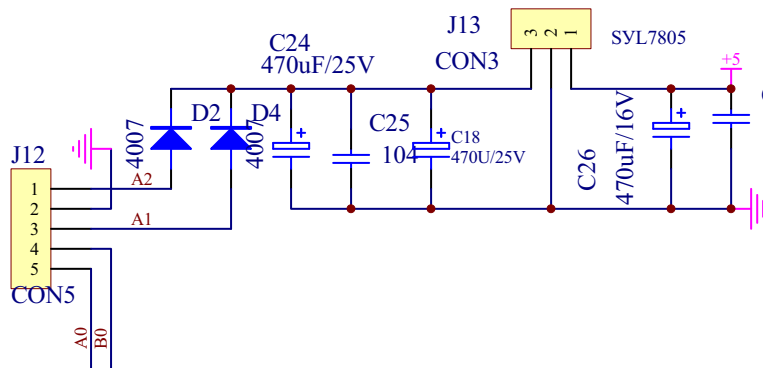

Fig.29A The Main Controlling Board Power Supply
(1) PRO85, PRO85U Circuit (Fig.29A)